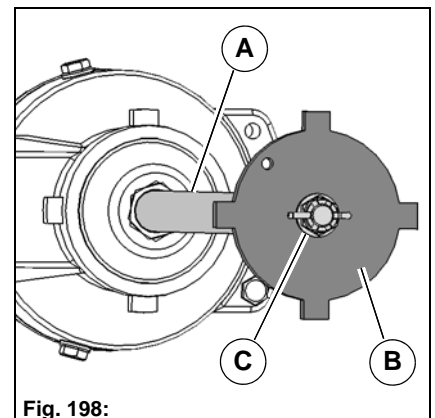

Fig. 198:
2. The sweeping rollers are fastened to the support tube **Fig. 198-A** with flange **Fig. 198-B**, and crown nut **Fig. 198-C**. Loosen the crown nuts and remove everything.